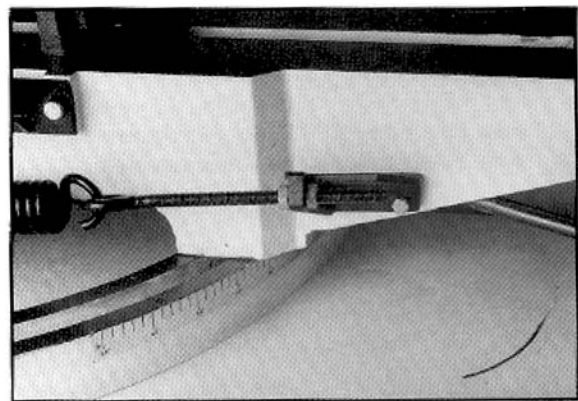

Figure 12
5. Adjust tension to approximately 22-24 lbs. by turning the adjustable C-bolt found at the end of the coil spring on the rear of the bandsaw. See Figure 12.